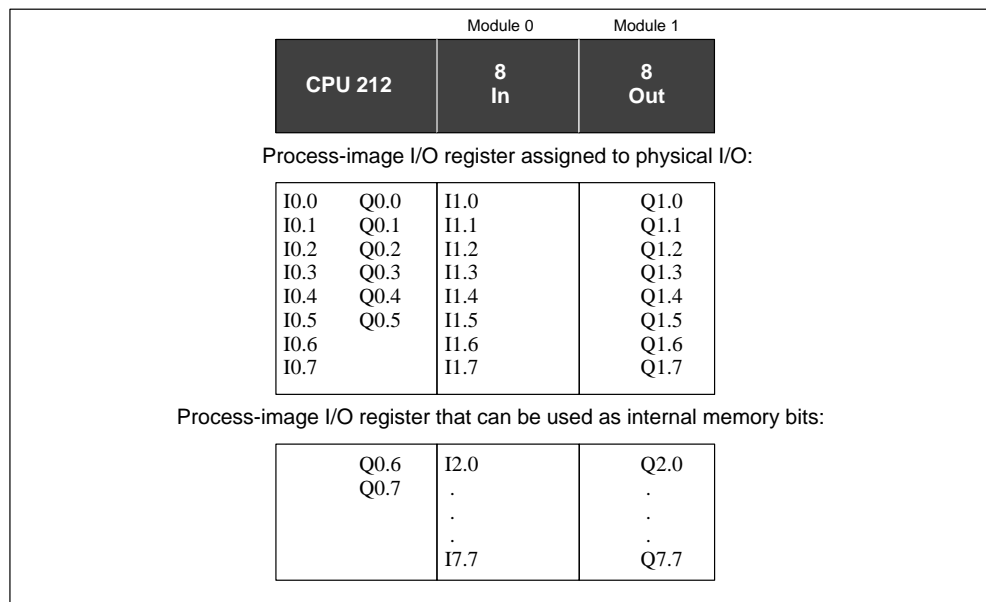

Figure 8-1 I/O Numbering Examples for a CPU 212
Figures 8-1, 8-2, and 8-3 provide examples that show how different hardware configurations affect the I/O numbering. Notice that some of the configurations contain gaps in the addressing that cannot be used by your program, while other I/O addresses can be used in the same manner as the internal memory (M) bits.